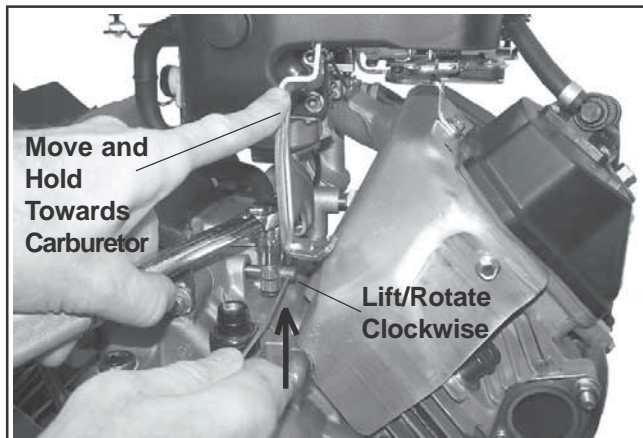

Figure 10-102. Adjusting Governor.
2. Move the governor lever toward the carburetor as far as it will go (wide-open throttle) and hold in position. See Figure 10-102.
3. Insert a long thin rod or tool into the hole on the cross shaft and rotate the shaft clockwise (viewed from the end) as far as it will turn, then torque the hex nut to 7.3 N·m (65 in. lb.). See Figure 10-102.